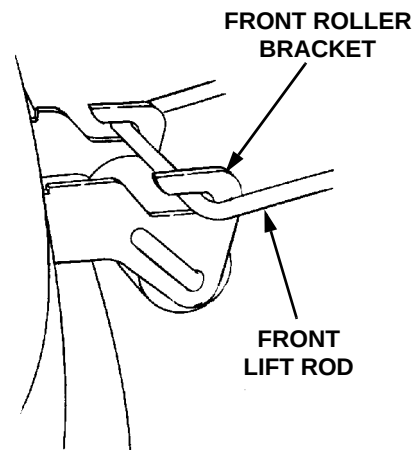

Figure 6-21
5. While holding the front lift rod up, slide the mower deck forward until the rod aligns with both front roller bracket slots. Lower the lift rod into the front roller bracket slots and slide the deck rearward to engage the lift rod fully forward in the slots of the deck front roller bracket (See Figure 6-21).